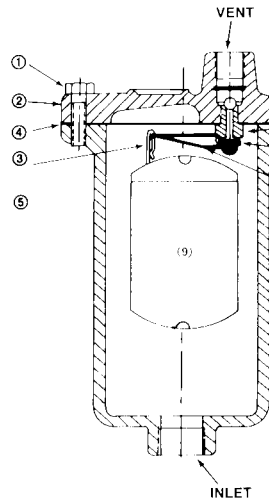
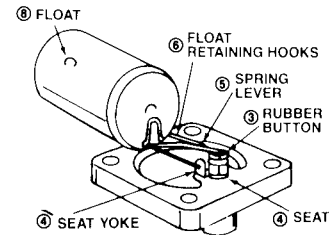

FIG. 1
FIG. 2
1. Remove the four capscrews that attach the cover to the body. (Item 1, Fig. 1)
2. Remove the cover from the body making sure not to damage the gasket surfaces on the cover or the body. (Item 2, Fig. 1)
3. Inspect the rubber button and its mating seating surface for damage or foreign material. (Items 3 & 4, Fig. 1 or 2) If the rubber button is damaged or has deteriorated, the lever and button assembly must be replaced.
4. The spring lever and button assembly is removed by pulling the outer wires of the spring lever out of the holes in the seat yoke. (Items 5 & 8, Fig. 2) (See Fig. 1 Note). Next, remove the spring lever and button assembly from the float by pulling it through the retaining hooks. (Item 6, Fig. 1 or 2).
6. Thoroughly clean gasket surfaces and install a new gasket. (Item 7, Fig. 1)